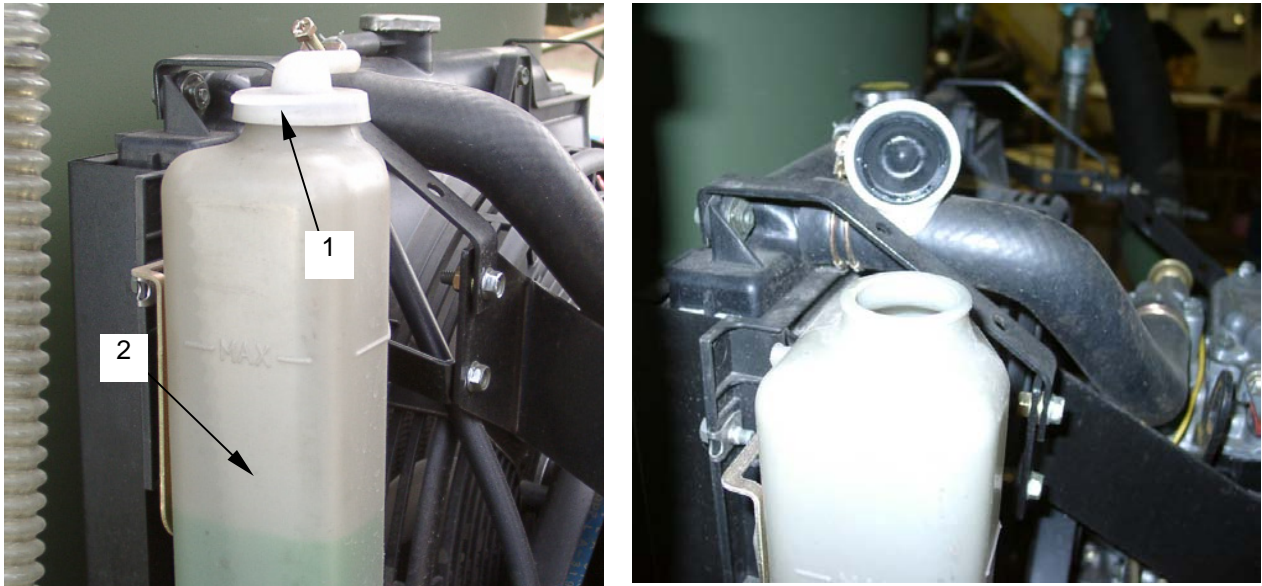

Figure 6. Radiator Bottle and Radiator Bottle Fill Port
- a. Remove the radiator bottle cap (**figure 6, item 1**).
- b. Using a 50/50 ethylene glycol base antifreeze/water mix fill the radiator bottle with coolant until the level reaches the full line on the bottle (**figure 6, item 2**).
- d. Install the radiator bottle cap (**figure 6, item 1**).
- f. Remove radiator bottle cap (**figure 6, item 1**).
- h. Install radiator bottle cap (**figure 6, item 1**).